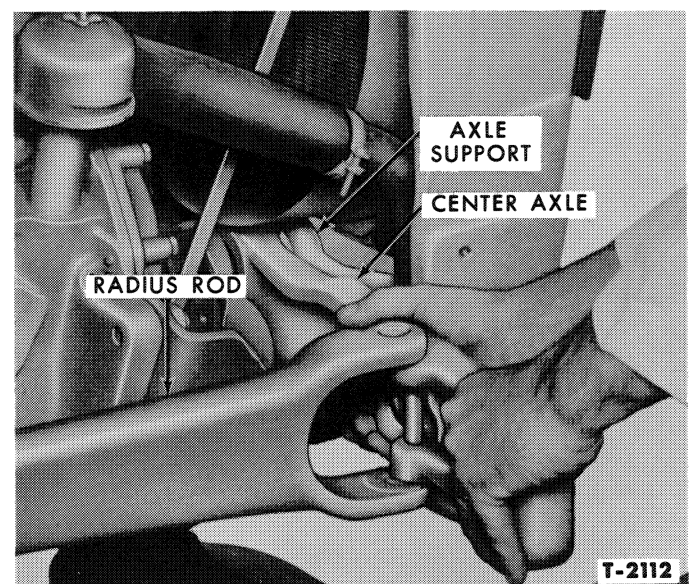

Figure 9—Removing Center Axle
8. Withdraw the center axle, Figure 9, from either side of the tractor.